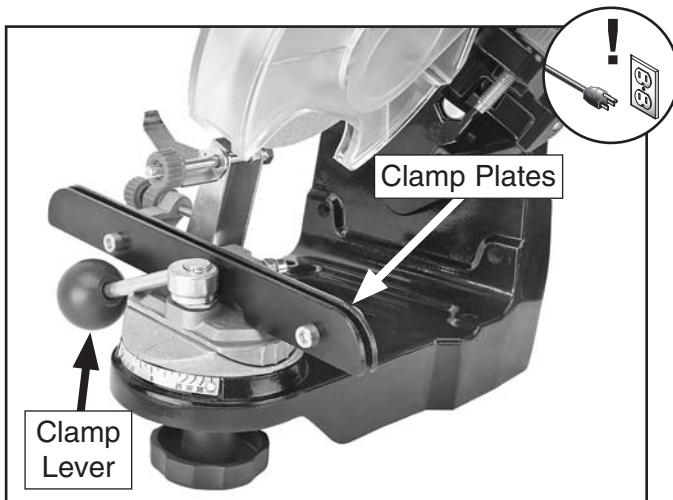

Figure 31. Clamp lever and clamp plates.
11. Use the clamp lever (see **Figure 31**) to set the gap between the clamp plates to match the chain gauge, which will allow the chain to easily move along the top of the clamping bars in the same manner it moves along the chain saw bar.